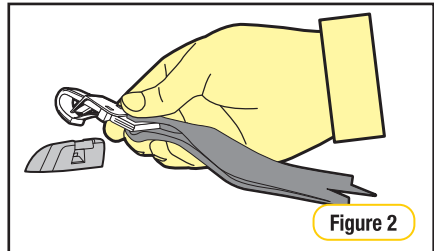

Figure 2
**Step 4:** Hook the attachment clip to the anchor fitting. Ensure there are no twists in the top tether strap (Refer to Figure 2)